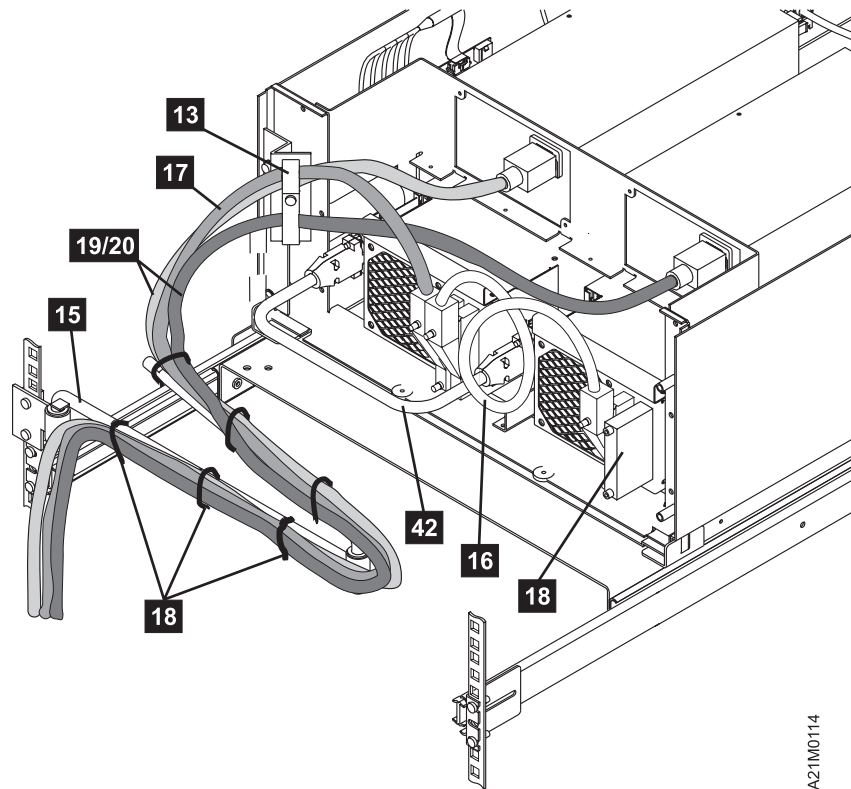

Figure 45. Model C22 (Dual-Drive Single-Host) Cable Routing
- ___ Step 5. Install the long SCSI host cable. Insert the right-angled plug into the left-most 68-pin socket (see Figure 45) of drive 1 so the cable is looped upward. Route it to the upper wing of the clamp (loop the cable so it does not extend above the top of the 3570 you are installing). With both the power cord **19/20** and the SCSI cable **17** from drive